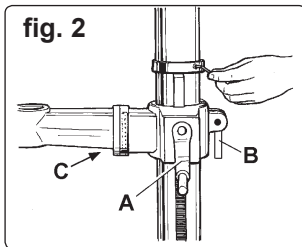

fig. 2
- 5.1.3. Install the rack collar and tighten firmly (fig.2).
- 5.1.4. Install the table adjusting handle (fig.2.A) and pivoted clamp bolt (the longer of the two - fig.2.B).
- 6.2.1. To adjust table up or down, loosen clamp bolt (fig.2.B) then turn bracket handle (fig.2.A). Once at correct height tighten clamp bolt (fig.2.B).
- 6.2.2. To adjust table tilt, loosen the work table bolt (fig.2.C), adjust to the desired angle using the angle scale, then retighten.
- 6.2.3. To turn the table around the column, loosen the rack collar slightly, then loosen the clamp bolt (fig.2.B). Turn the table to the desired position then secure the clamp bolt and rack collar.